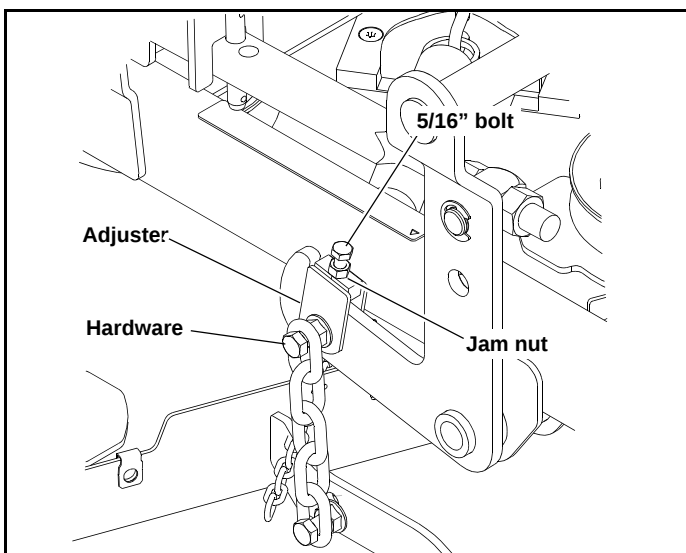

Figure 7-5
15. Loosen the 5/16" jam nut on the adjuster, and back the adjuster bolt out to allow the adjuster to move up and down freely. Figure 7-5
front of the deck on that side—to check, move the blocks back and forth; they should move with a slight drag. Figure 7-5
17. Tighten the adjuster bolt jam nut to prevent the adjuster bolt from moving. Figure 7-5
18. Tighten the hardware holding the chain and adjuster onto the deck lift arm. Figure 7-5